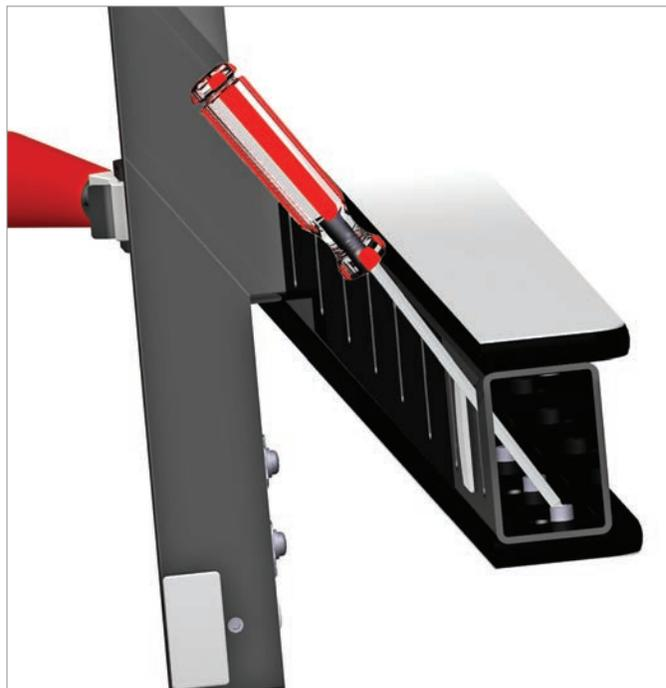

Fig. 41
- ii. You can access the screws that attach the face plates to the fence through the slots on the bottom of the fence. Insert a 5 mm ball-end hex driver through the slot at the end of the fence and into the screw head (See Fig. 41 with endcap removed). Loosen the screw about one-quarter to one-half turn. Do not loosen the screw too much. The screw should be just loose enough to allow the plate to move but still tight enough to hold the plate temporarily in its new position. Continue this process with each slot/screw pair. Once all the screws on one face plate are loose, slide the face plate toward the top of the fence.